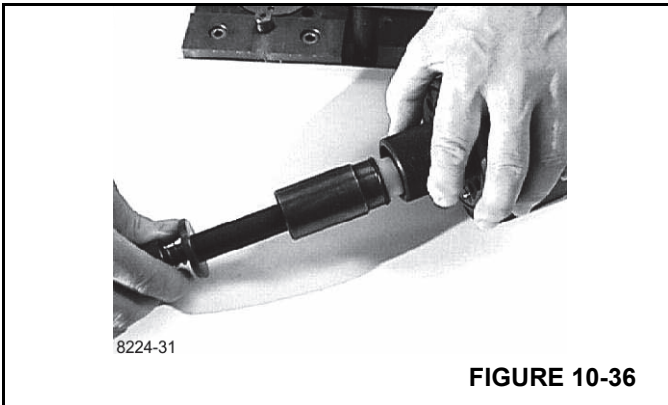

FIGURE 10-36
9. Hold the outer part of the assembly tool in the bottom of the steering unit housing and guide the inner part of the tool right to the bottom (Figure 10-36).